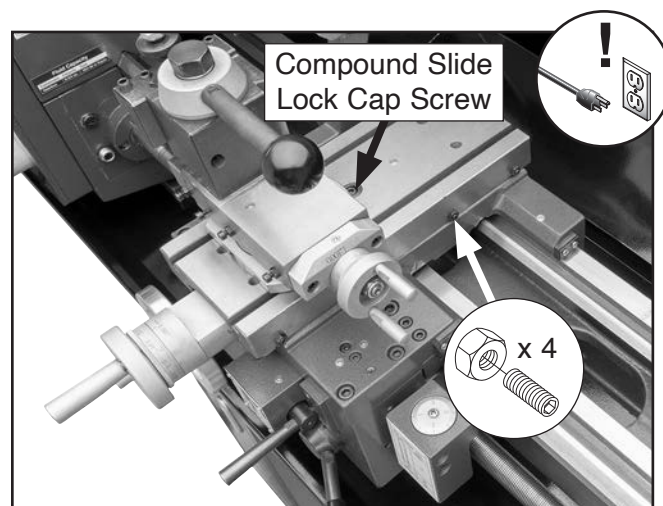

Figure 124. Location of cross slide gib set screws and jam nuts.
2. Loosen compound slide lock cap screw (see **Figure 124**).
3. Without turning gib set screws, loosen (4) gib jam nuts shown in **Figure 124**.
4. Make adjustments in small and equal increments to (4) gib set screws (see **Figure 124**), then test movement of slide by rotating handwheel.